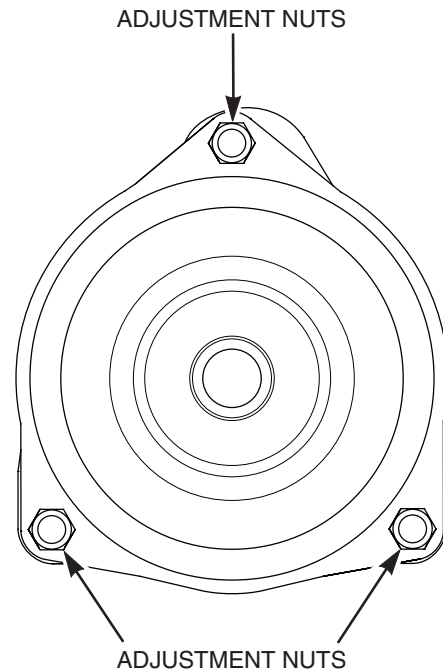

Figure 6-11. Clutch Air Gap Adjustment
3. Tighten or loosen the adjusting bolt as needed to achieve the 0.015 inch airgap. See Figure 6-11. Perform this operation at all three inspection windows.